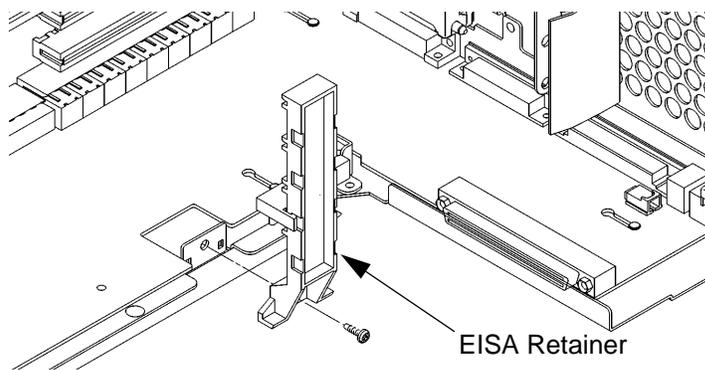

Figure 53
- 3 Remove the screw from the EISA retainer, and remove the EISA retainer, as shown in Figure 53.